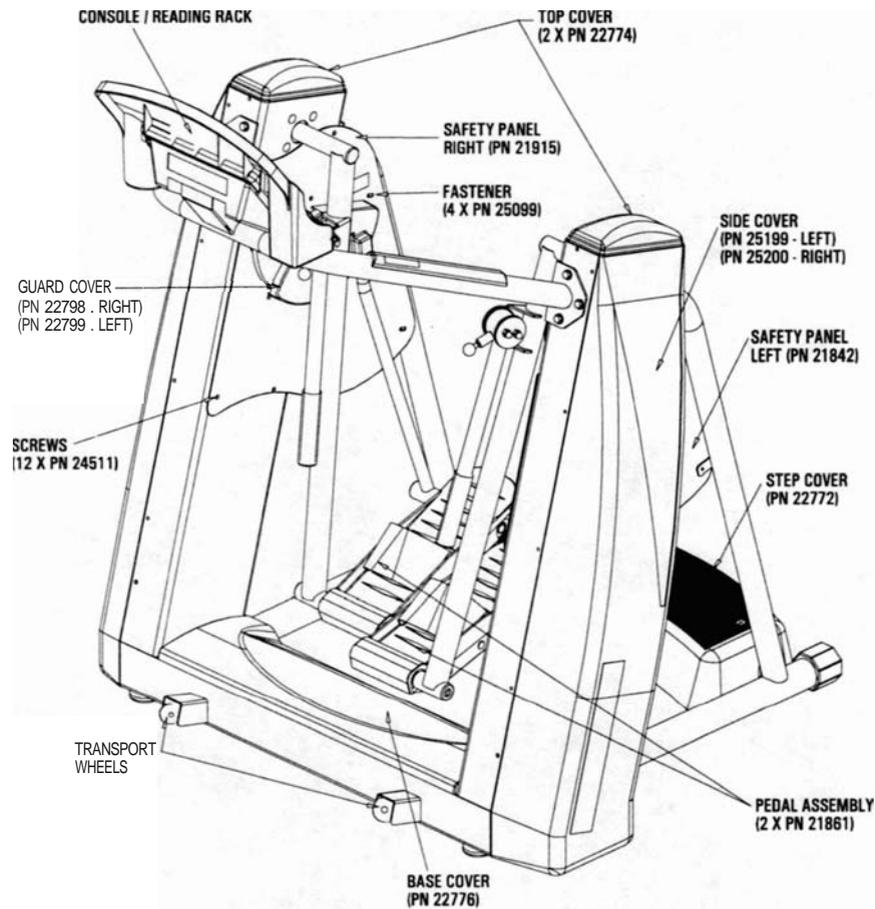

Figure 1: Major Parts
Before leaving the manufacturing facility in Tulsa, Oklahoma, your StairMaster® FreeRunner™ elliptical striding system was thoroughly inspected and tested to ensure proper operation. The major parts of the machine are shown in Figure 1.
7. Have an assistant help you slide the machine off the shipping pallet and onto the floor. Use the transport wheels (see Figure 1) to roll the machine into the desired location.